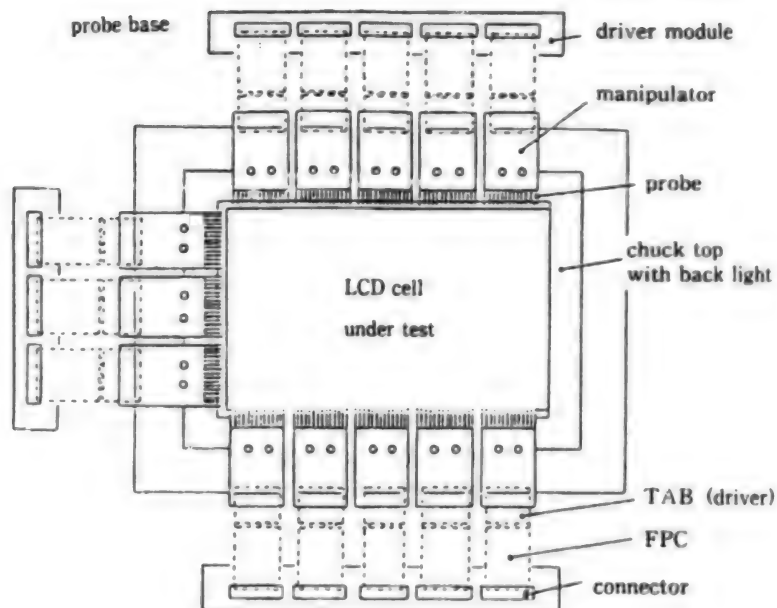
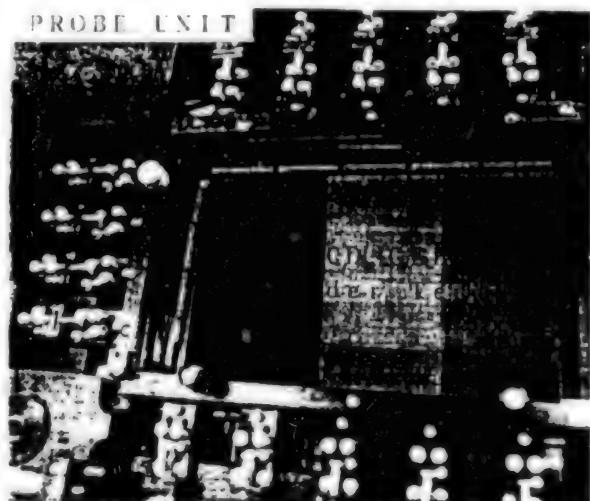

Figure 3. Probe Unit (illustration)
Figure 4. Probe Unit (photograph)
(1) Probe Unit (Figure 3, Figure 4)